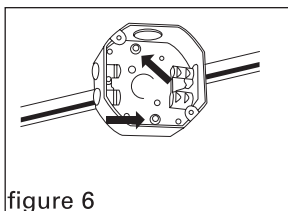

figure 6
5. Tighten the locknuts inside the electrical box to clamp it to the support bar (figure 6).